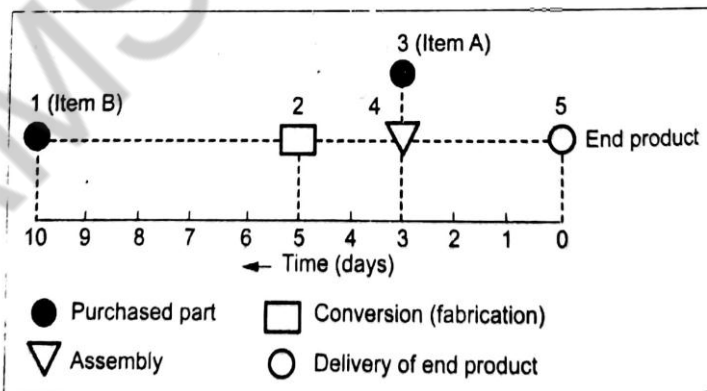

Fig. 4.12. Operation programme chart
- ✓ *Illustration:* Fig.4.12 illustrates a typical operation programme chart for an assembly consisting of two items A and B.
From Fig.4.12, the following points may be noted:
Illustration: Let us develop a LOB chart on the 2nd week for the product having the operation program shown in Fig.4.12 and the delivery schedule shown in Table 4.3.